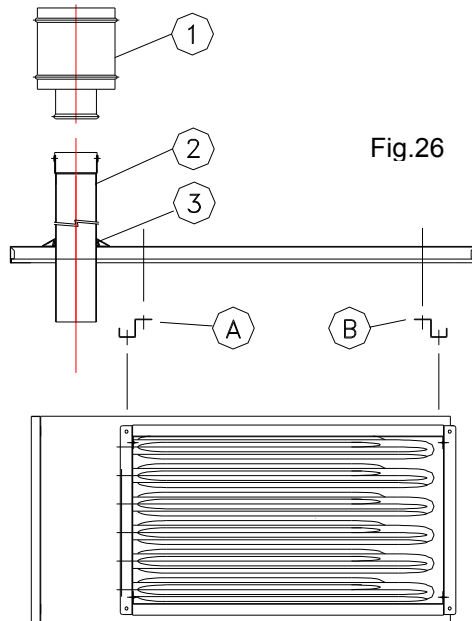

Fig.26
- ✓ Fasten the two roof support profiles (see (A) and (B) in fig.26) on the top of the heater's shell using four M8x20 screws.